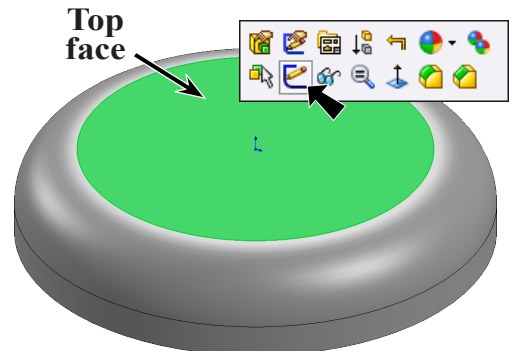

Fig. 11
Step 2. Click the **top flat face** of washer and click **Sketch**  on the Context toolbar, **Fig. 11**.